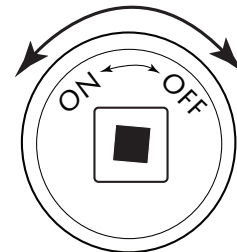

Fig. 9. Key Valve Face
1. Insert key into shut-off valve and secure into square end (see Figs 9 & 10).